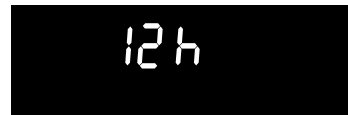
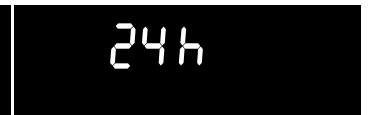

Fig. 2
Fig. 3
2. Press **Flex Clean** key pad to toggle between 12 hour (Fig. 2) or 24 hour (Fig. 3) display modes.